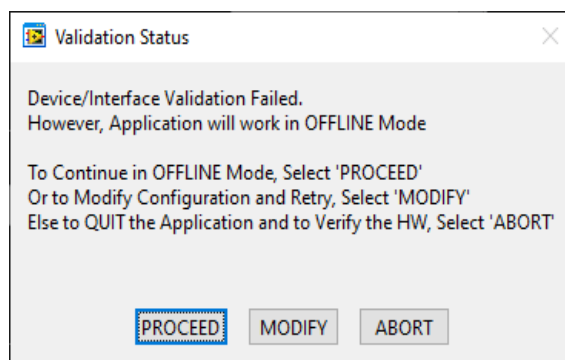

Figure 22: Validation status
2. If the values do not match, SW displays the validation Status as FAIL and alerts the user with a message as seen in Figure 22.